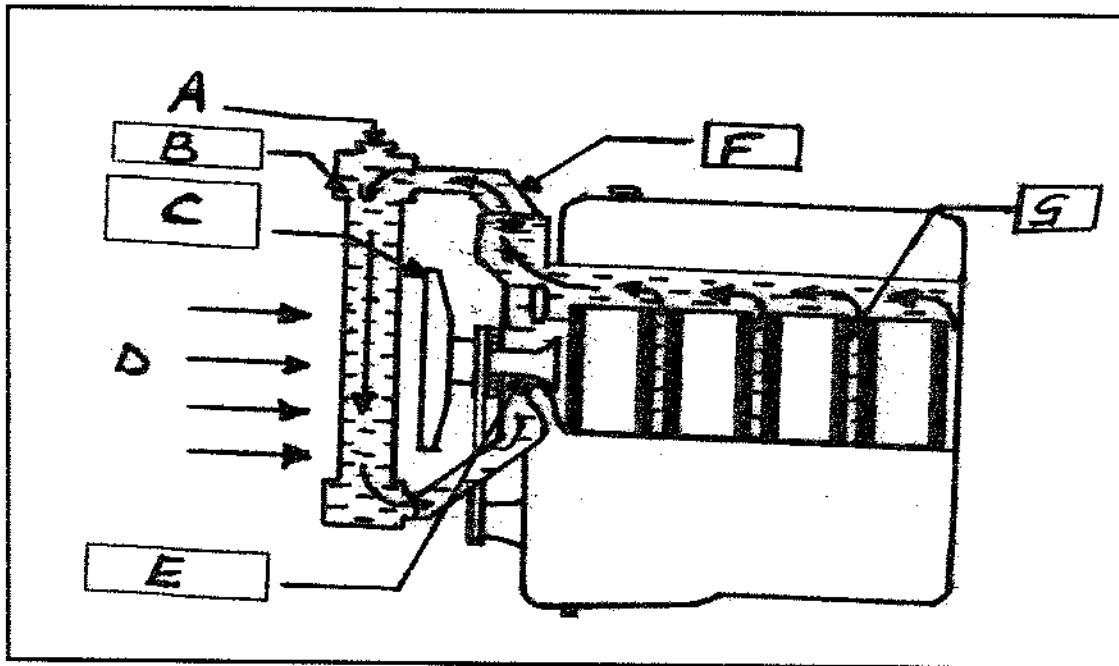

FIGURE 4
- 4.4 FIGURE 4 below, shows a cooling system of an internal combustion engine. Name the parts by writing each answer next to the letter (A–G) in the ANSWER BOOK.